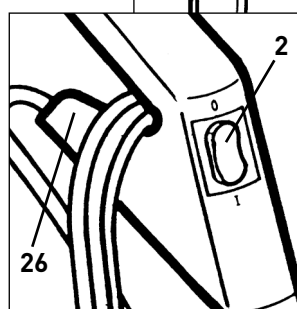

Figure 2
2. Release the power cord plug from the power cord and lift the cord off of the upper cord hook (#26, figure 2).
3. With the switch (#2, figure 2) in the "0" (OFF) position, plug the polarized power cord into a 120 volt outlet located near the floor.